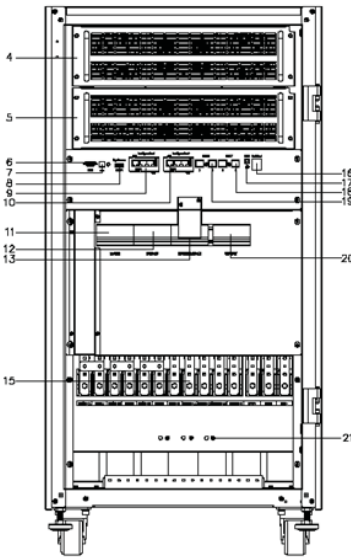

Fig. 3-14 UPS front view with open door (60 / 80 kVA).
After opening the front cabinet door (Fig. 3-14, below), all relevant device components are accessible. The UPS module (3) is located in the upper part, integrated with a typical slide-in construction. Only a UPS module with a power capacity of 30 or 40 kVA can be installed in this version.